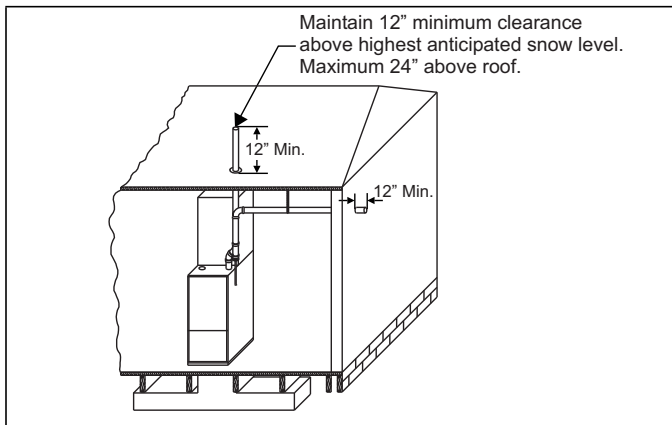

FIGURE 23: Termination Configuration - 1 Pipe
1. **OUTDOOR COMBUSTION AIR:** This is a direct vent configuration where the combustion air is supplied through a PVC or ABS pipe that is connected to the PVC coupling attached to the furnace and is terminated in the same atmospheric zone as the vent. This type of installation is approved on all models. Refer to Figures 23 & 24.